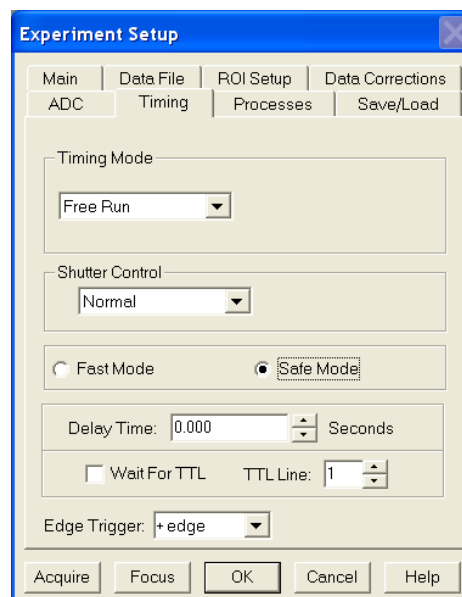

Figure 40. Timing tab
- On the **Timing** tab (Figure 40) set the following parameters.